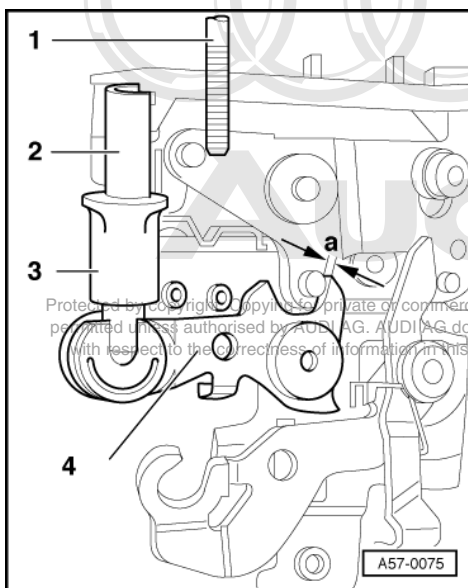

Fig.2 -> Adjusting play for locking lever
- Do not strain locking lever -4- on door lock -5- (max. play at locking lever 1 mm => Fig. 2)